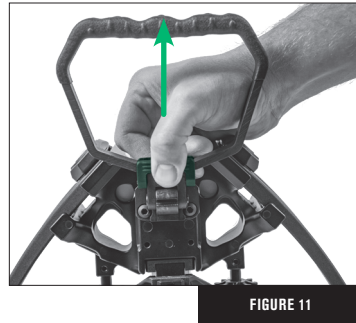

FIGURE 11
- ALWAYS make sure the crossbow is UNLOADED and the safety switch is in the (S)AFE position.
- To rotate the position of the folding stirrup from the full extend position, lift up the stirrup release lever found at the base of the of the cocking stirrup (Fig. 11).